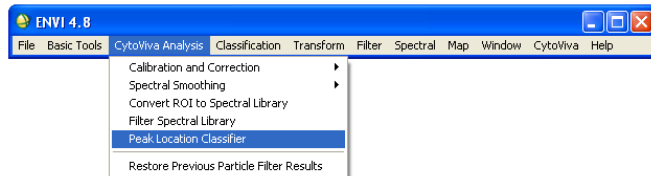

Figure 1. CytoViva Analysis tab
1. Go to the CytoViva Analysis tab, Select peak Location Classifier from the drop down menu (see Figure 1.)